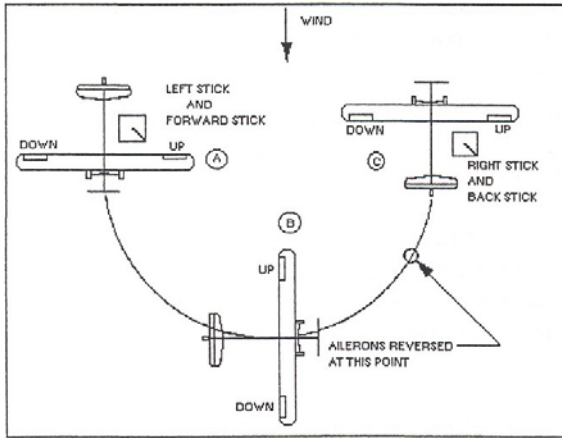

Figure 2-2 Use of Ailerons in taxiing turn to upwind
**Ailerons** - When taxiing crosswind, the control column should be "into the wind". When taxiing upwind or downwind the ailerons are held in the neutral position until a turn is anticipated. At that time, the aileron into the wind will be used to lead the turn, and the aileron will then be reversed as soon as the airplane passes the crosswind position. See Figures 2-2 and 2-3.